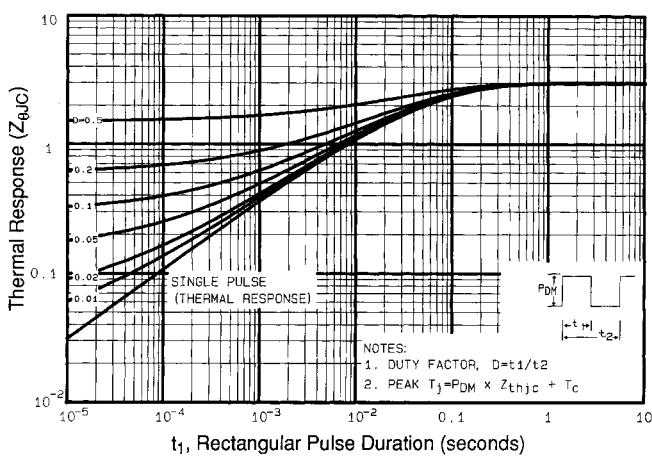

Fig 11. Maximum Effective Transient Thermal Impedance, Junction-to-Case
① Repetitive rating; pulse width limited by max. junction temperature (See Figure 11)
③ $I_{SD}\leq 5.2\text{A}$, $di/dt\leq 95\text{A}/\mu\text{s}$, $V_{DD}\leq V_{(\text{BR})\text{DSS}}$, $T_J\leq 150^\circ\text{C}$